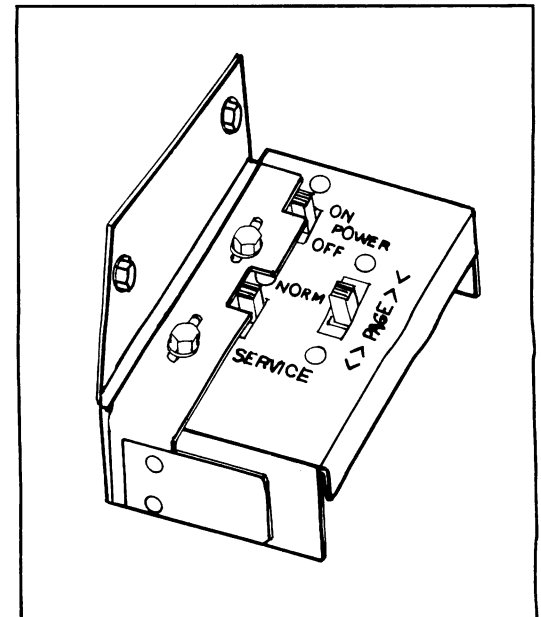

Figure 2-5 Service Switch
2. Move the SERVICE switch to the SERVICE position, if not already done (refer to figure 2-5).
2. Move the SERVICE switch to the SERVICE position, if not already done (*refer to figure 2-5*).